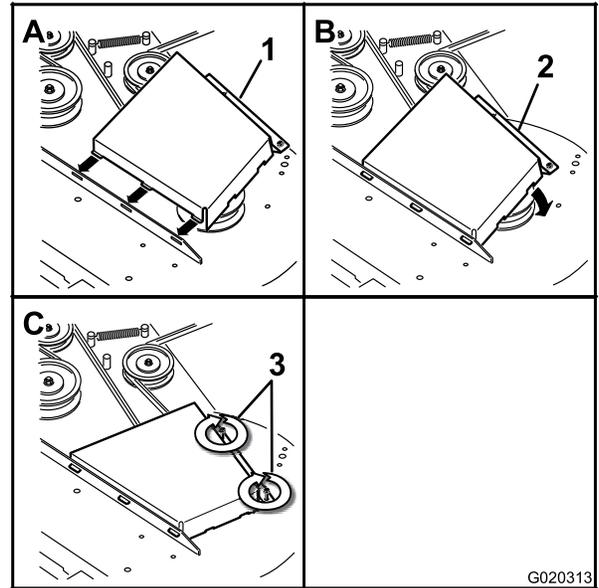

Figure 70
4. Install the belt covers (Figure 70).